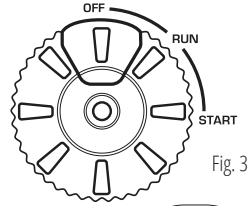

Fig. 3
- 5.2 For electric start, press the red button on the multifunctional engine switch (fig. 3)
6. After starting the engine, turn the Multifunctional engine switch to the "RUN" position (fig. 3).
8. For manual start, pull the manual starter until a slight resistance is felt, then pull it toward you relatively sharply. Slowly turn the manual starter by hand, do not release it abruptly. For electric start, press the red button on the multifunctional engine switch (fig. 3)
9. After starting the engine, turn the Multifunctional engine switch to the "RUN" position (fig. 3).